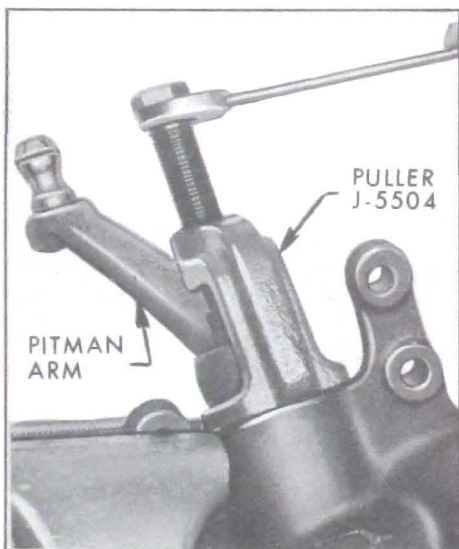

Figure 8-33—Removing Pitman Arm From Pitman Shaft
6. If necessary remove pitman arm from pitman shaft, using Puller J-5504. See Figure 8-33.